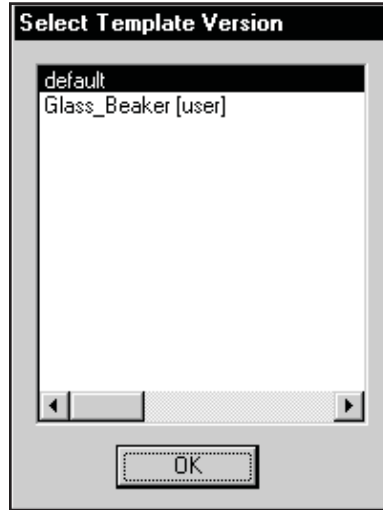

Figure 159 Selecting a User-defined Template.
3. This will display the dialog shown in Figure 159, where you can select the custom definition you just saved as your base template, then continue as described in “Detector and End Cap” on page 210.